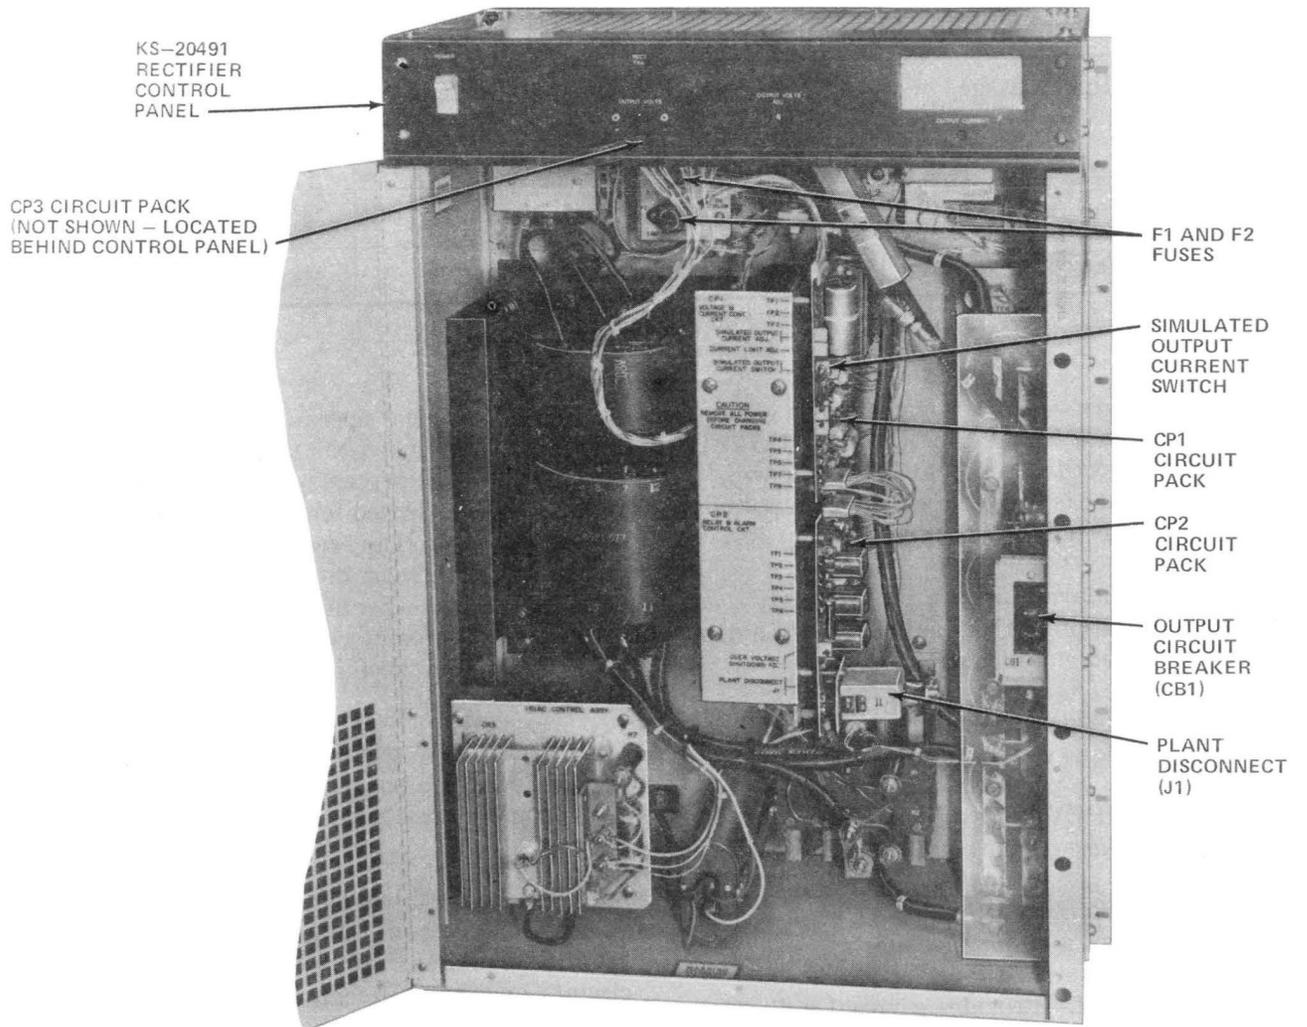

Fig. 10—KS-20491, L21, L22, L23, or L24 (Lorain) Rectifier—Front Panel Open
3.15 The regulator and control circuit of the KS-20491 rectifier manufactured by Lorain (Fig. 10) consists of the following printed wiring circuit packs: